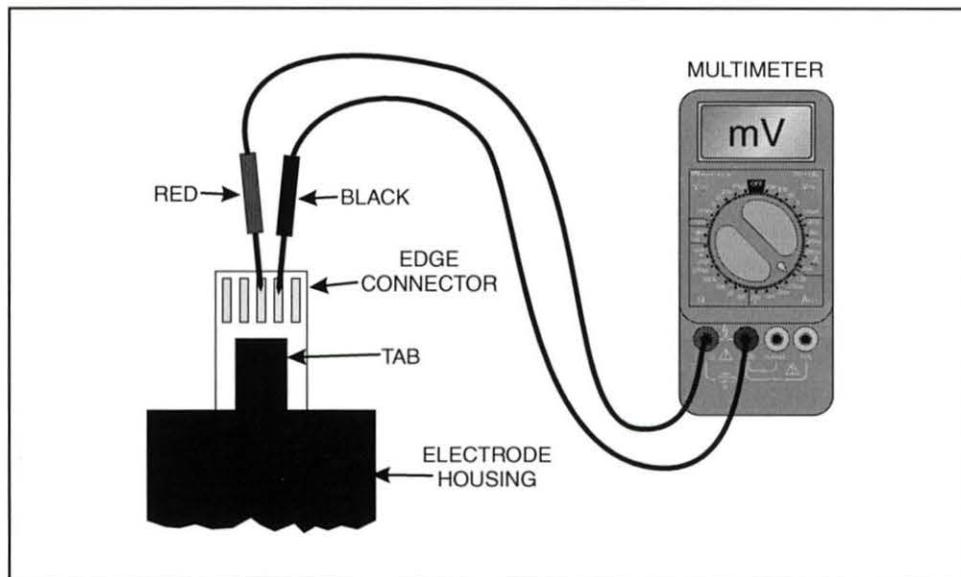

Figure 34. Measuring Potential (Voltage) at Edge Connector with Multimeter
- D. Turn the electrode so that the side of the edge connector that has a tab in front of it is accessible, as shown in figure 34.
- E. After 2 minutes, measure the potential (voltage) using the multimeter, as shown in figure 34.
Measure across the second and third traces from the right on the edge connector, as figure 34 shows. Be careful not to touch the meter probe tips with your fingers, as this will affect the measurement.